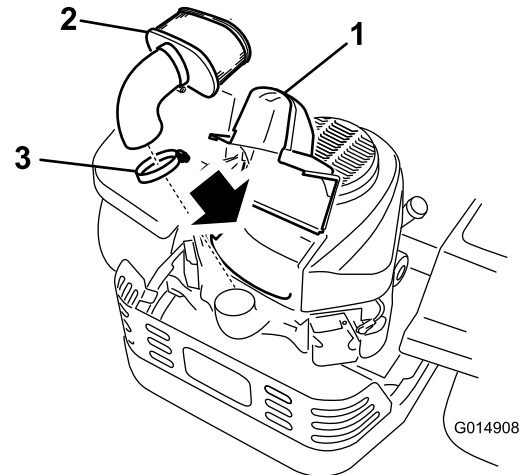

Figure 23
2. Clean around the air cleaner cover to prevent dirt from getting into the engine and causing damage. Lift the cover and remove the hose clamp securing the air cleaner assembly to the engine (Figure 23).
3. Loosen the hose clamp and remove the paper element (Figure 23).